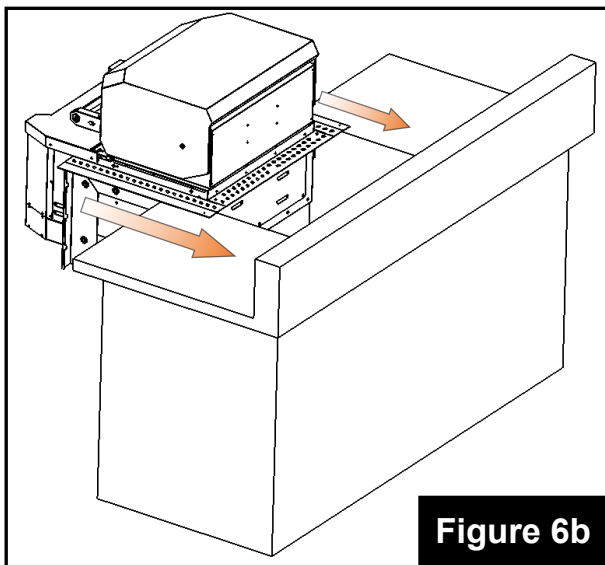
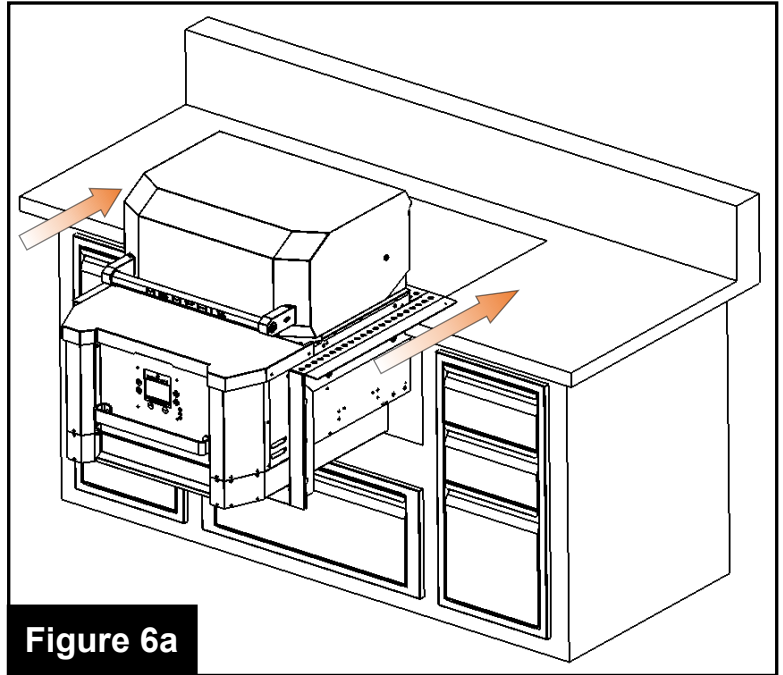

Figure 6b
Figure 6a
Step 6) With two people, lift the grill onto the island countertop and slide into the island cutout (See **Figures 6a & 6b**). Ensure vent holes on mounting brackets remain unobstructed for proper air circulation (See **Figure 6c**).
Step 6) With two people, lift grill into the upright position (See Figure 6b). From the rear of the grill, attach the leg assembly onto the grill using 4 screws (Part 11) and 4 lock washers (Part 12) (See Figure 6a).